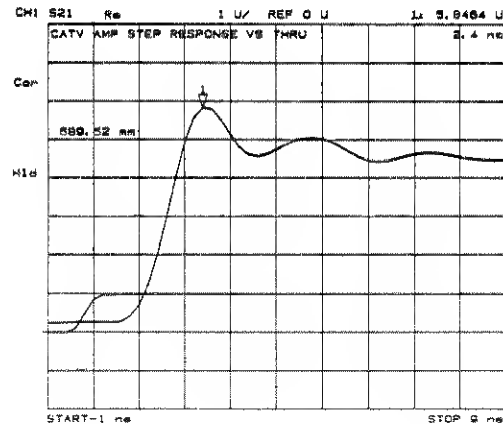

Figure 8-8. Time Domain Low Pass Measurement of an Amplifier Small Signal Transient Response
The step input shown in Figure 8-8 is the inverse Fourier transform of the frequency domain response of a thru measured at calibration. The step rise time is proportional to the highest frequency in the frequency domain sweep; the higher the frequency, the faster the rise time. The frequency sweep in Figure 8-8 is from 10 MHz to 1 GHz.
Figure 8-8 also illustrates the time domain low pass response of an amplifier under test. The average group delay over the measurement frequency range is the difference in time between the step and the amplifier response. This time domain response simulates an oscilloscope measurement of the amplifier's small signal transient response. Note the ringing in the amplifier response that indicates an underdamped design.
**Interpreting the Low Pass Step Transmission Response Vertical Axis.** In the real format, the vertical axis displays the transmission response in real units (e.g. volts). For the amplifier example in Figure 8-8, if the amplifier input is a step of 1 volt, the output, 2.4 nanoseconds after the step (indicated by marker 1), is 5.84 volts.